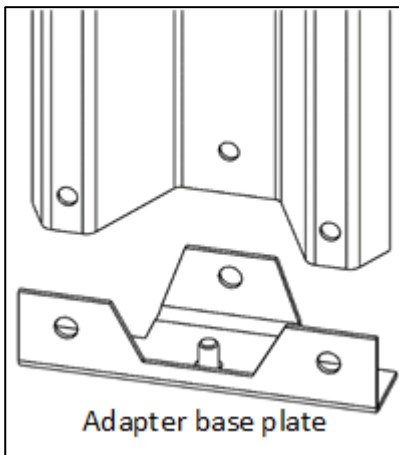

Figure 16: Remove the plate
6. Remove the leg anchor base plate (Figure 16).